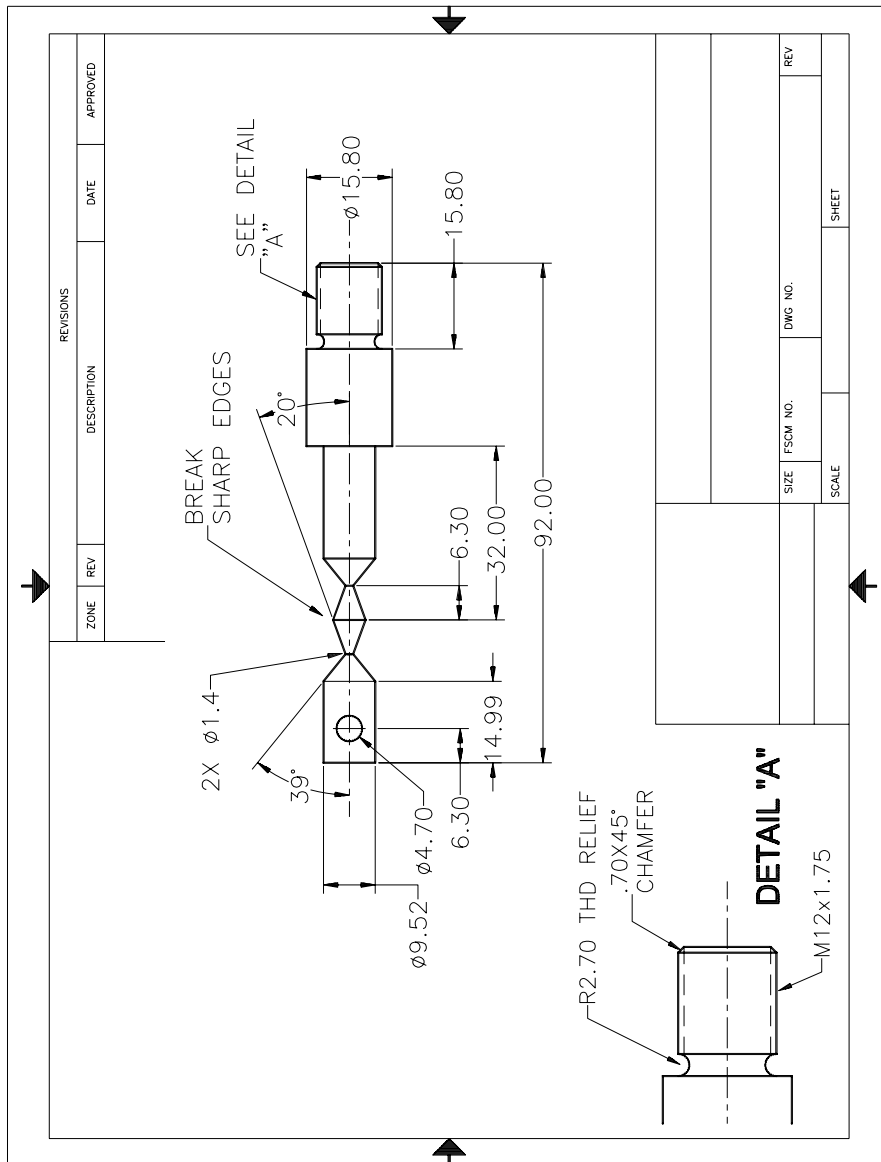

Figure 12-29 Drawing for Exercise 1
- a. In the model space, make the drawing of the shaft shown in Figure 12-29.
- d. Create two viewports, one for the drawing and one for the detail “A”. See Figure 12-29 for the approximate size and location. The dimensions in detail “A” viewport must not show in the other viewport. Also, adjust the LTSCALE factor for hidden and center lines.